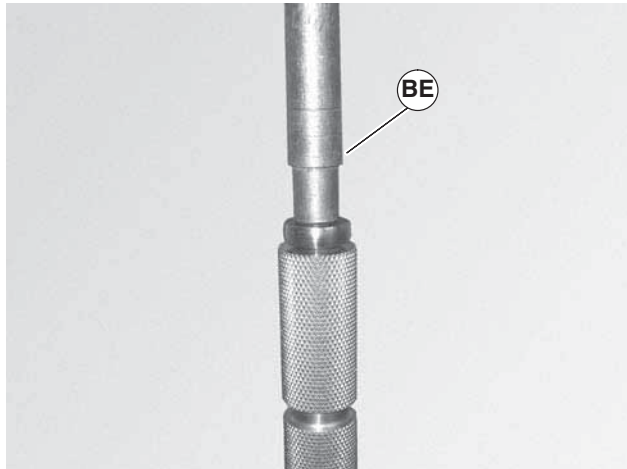

Figure 38
2. Use a bearing installation tool, (Figure 38, item BE), part number 450292 or equivalent and press bearings onto the pulley and drive pulley.